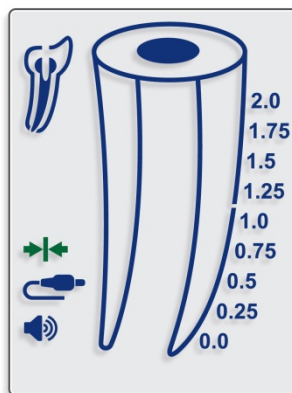

Fig. 3
- 7.3.2. “Connection” icon  should appear on the display, indicating proper connection (Fig. 3).